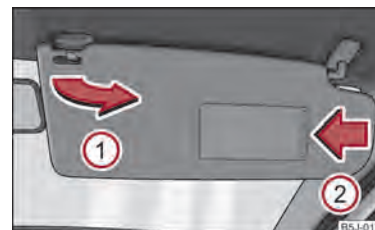

Fig. 29 Sun visor: swivelling out
You can pull the sun visor for the driver or front passenger out of the fixture and swivel it toward the door in the direction of the arrow ① ⇒ fig. 29.